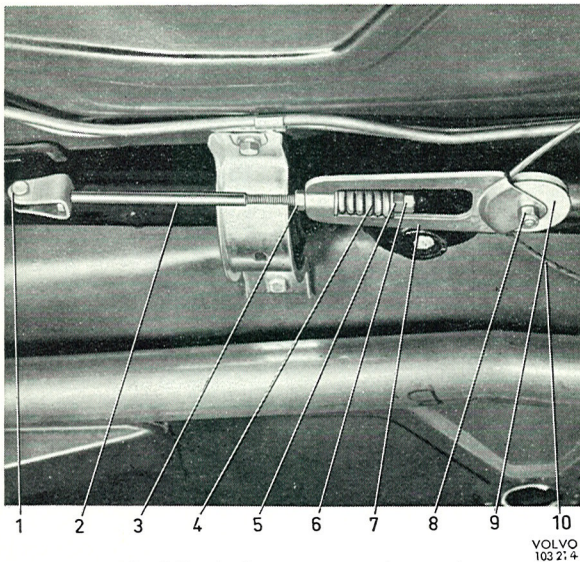

Fig. 5-82. Brake components, late prod.
6. Apply the handbrake lever and check that full braking effect is obtained on the 3rd—4th notch. If the handbrake can be applied still further, the cable should be tensioned. This is done by loosening the locknuts and screwing in the block (6, Fig. 5-82) on the pull rod. After adjusting, tighten the locknuts. Check that there is approximately the same braking effect on both rear wheels.
3. Remove the nut (8, Fig. 5-82) and take off the pulley (9) from the block (7).
1. If new linings or drums are to be fitted, slacken the lock nut (6, Fig. 5-82) to remove tension in the cable.